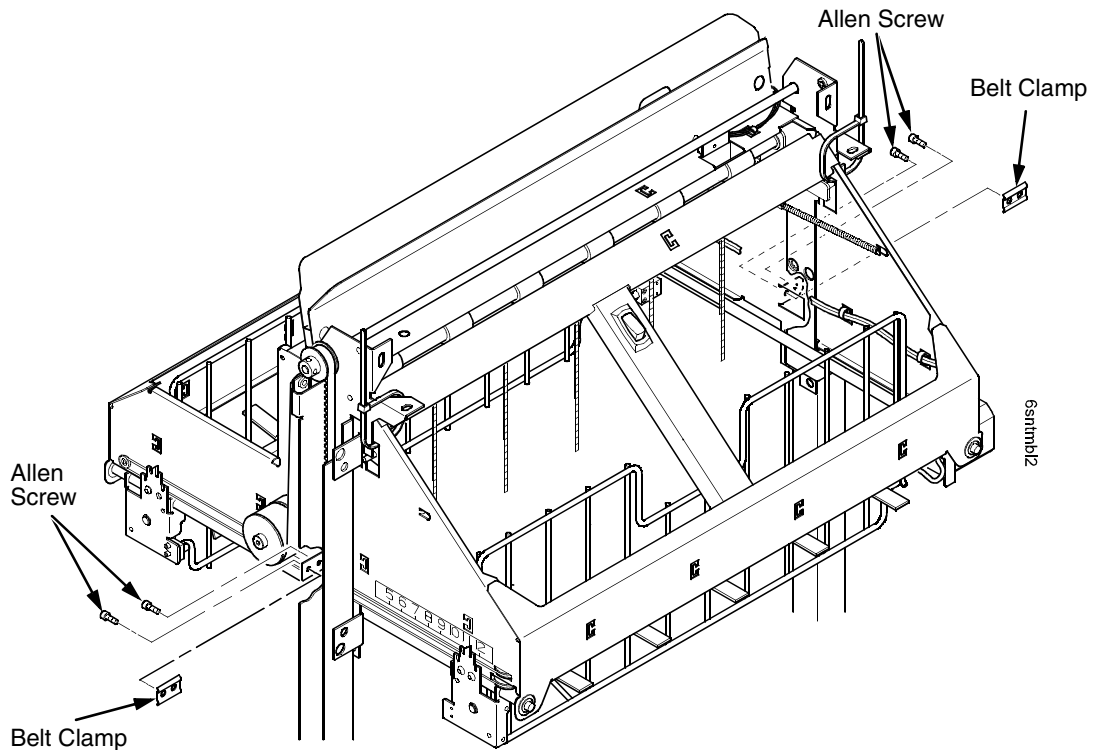

Figure 98. Removing the Belt Clamps
7. Remove two Allen screws from the belt clamp that secures the timing belt to the stacker frame. (Figure 98.)